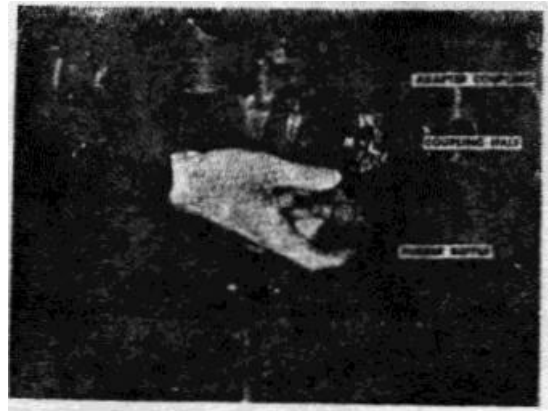

Figure 2-4. Coupling rubber buffer
1. Remove the old spider coupling and assemble the adapter coupling to the air compressor or drive shaft. Fig. 2-4.
3. Assemble the rubber buffer to the coupling Fig. 2-4.